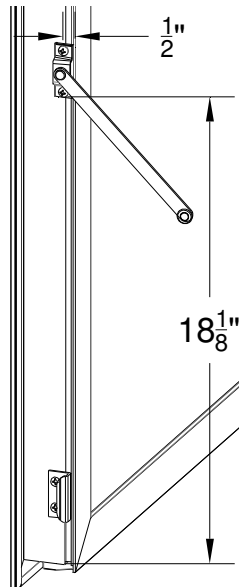

Figure 4:
1. From the bottom of the vent measure up 18-1/8", mark the location (Figure 4).
3. Mark the two (2) hole locations of the limit arm. These hole locations should be a 1/2" from the interior, Figure 4.